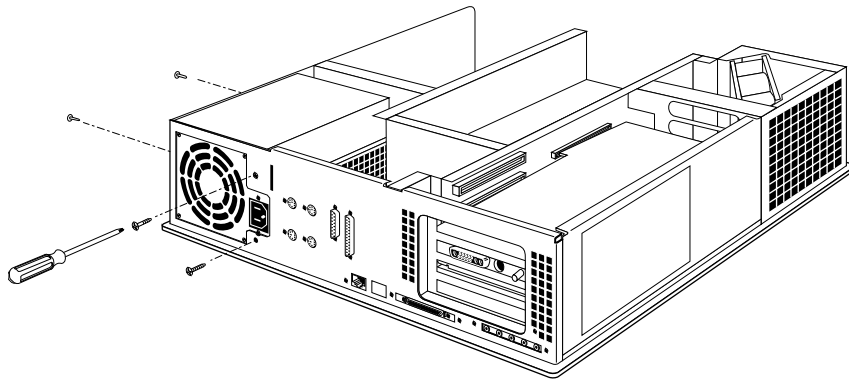

Figure 8-20 Removing the Power Supply Screw
- Face the back of the system. The power supply is located on the left, as shown in Figure 8-20.